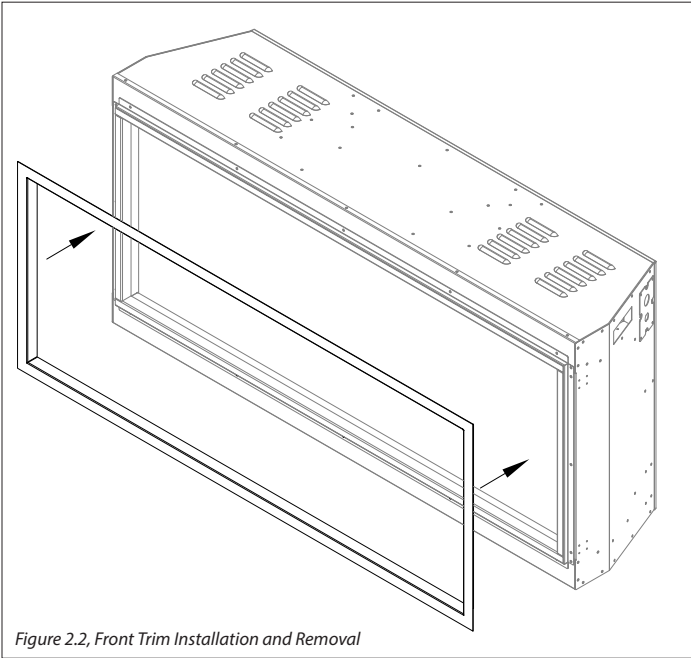

Figure 2.2, Front Trim Installation and Removal
1. Carefully pull the magnetic front trim out from the appliance (Figure 2.2). Place it face down on a soft, non-abrasive surface.